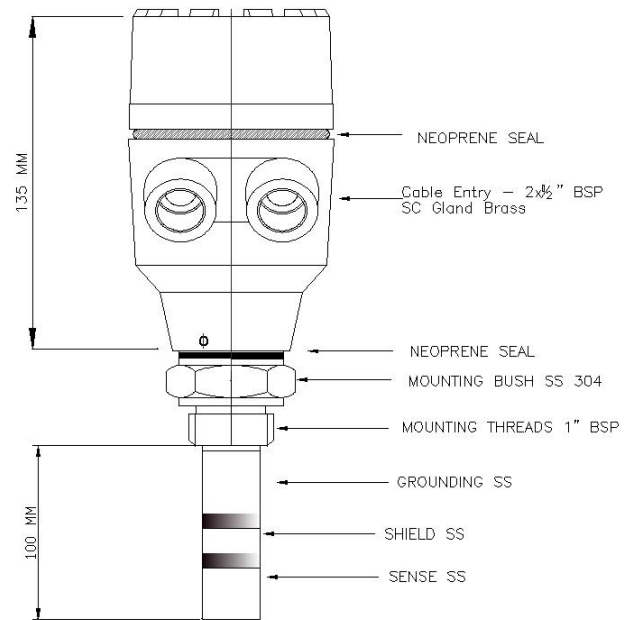
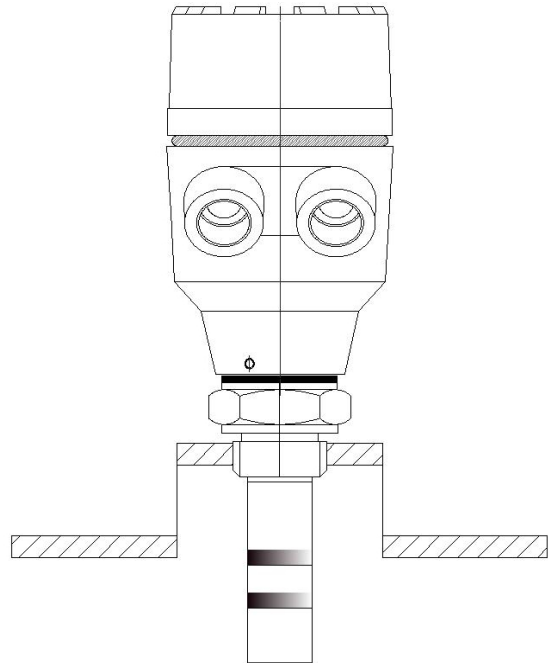

Figure 1: Dimensional Layout: Front View
Figure 2: Dimensional Layout - Top Mounting
Dimensional drawing for a probe length of 100 mm is shown in Figure 1. The dimensions shown in Figure 1 can vary depending on the probe length and the mounting arrangement. A dimensional drawing for your order can be made available on request.
- The Coat-Endure probe (see figure 1) can be installed in the vessel in both horizontal (side mounting) and vertical (top mounting) positions. Please refer to Figures 2 and 3.